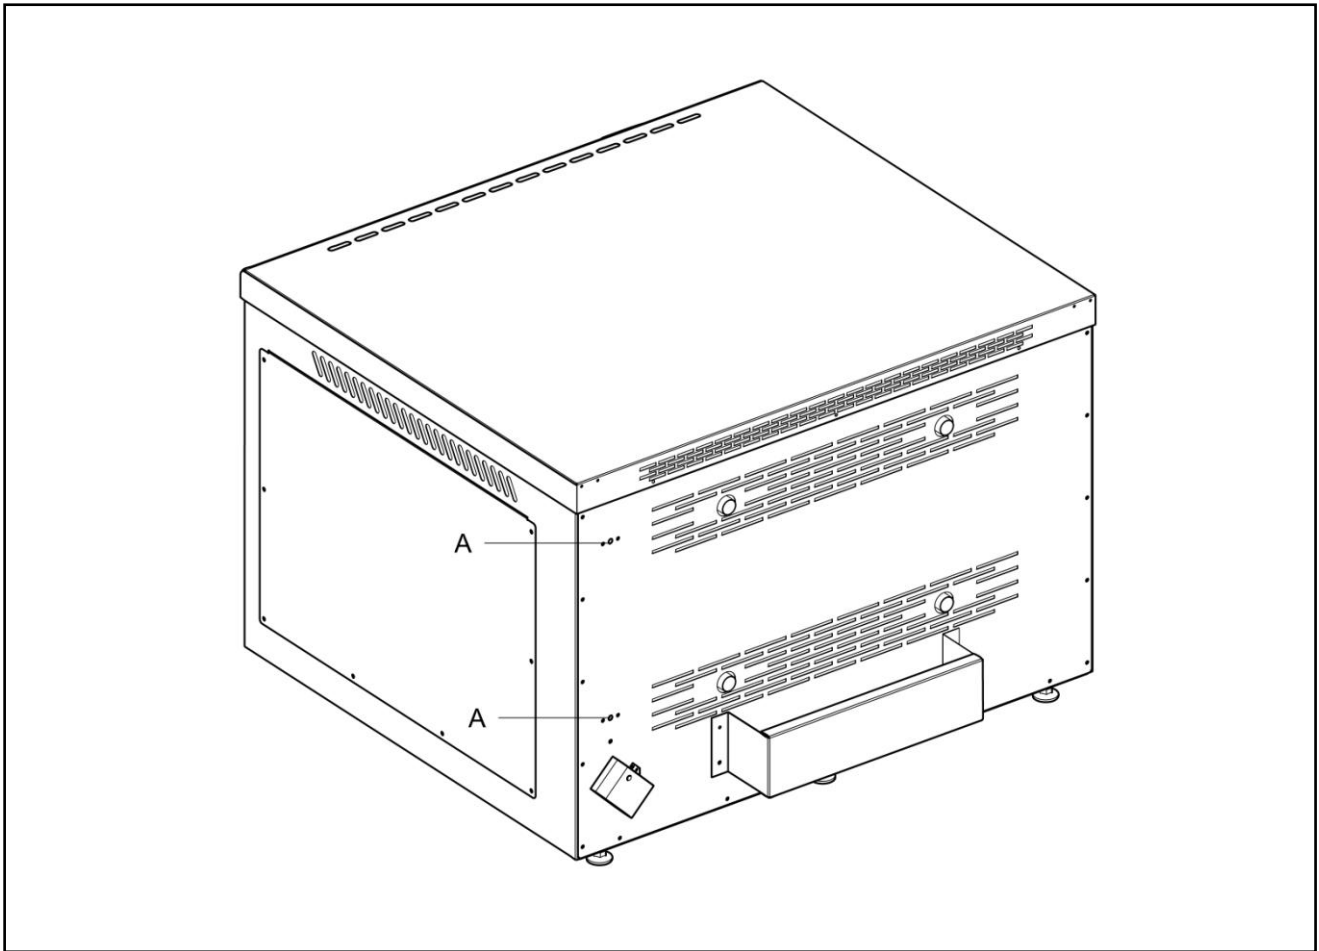

Fig 3
If necessary, re-set the safety thermostat by pressing the red button (A) in Fig 3. The re-set cannot be activated until the oven has cooled.